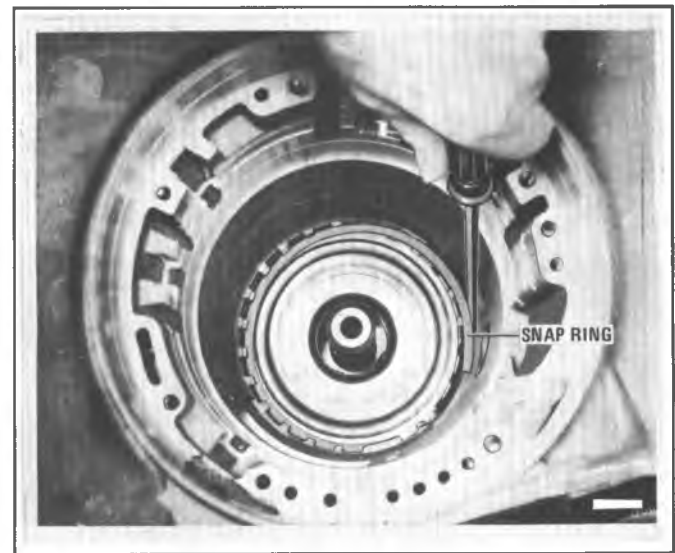

Figure 7A6-64 Removing Lo and Reverse Housing to Case Snap Ring
c. Using J-25012, remove lo and reverse clutch housing assembly by moving J-25012 back and forth (Figure 7A6-65).